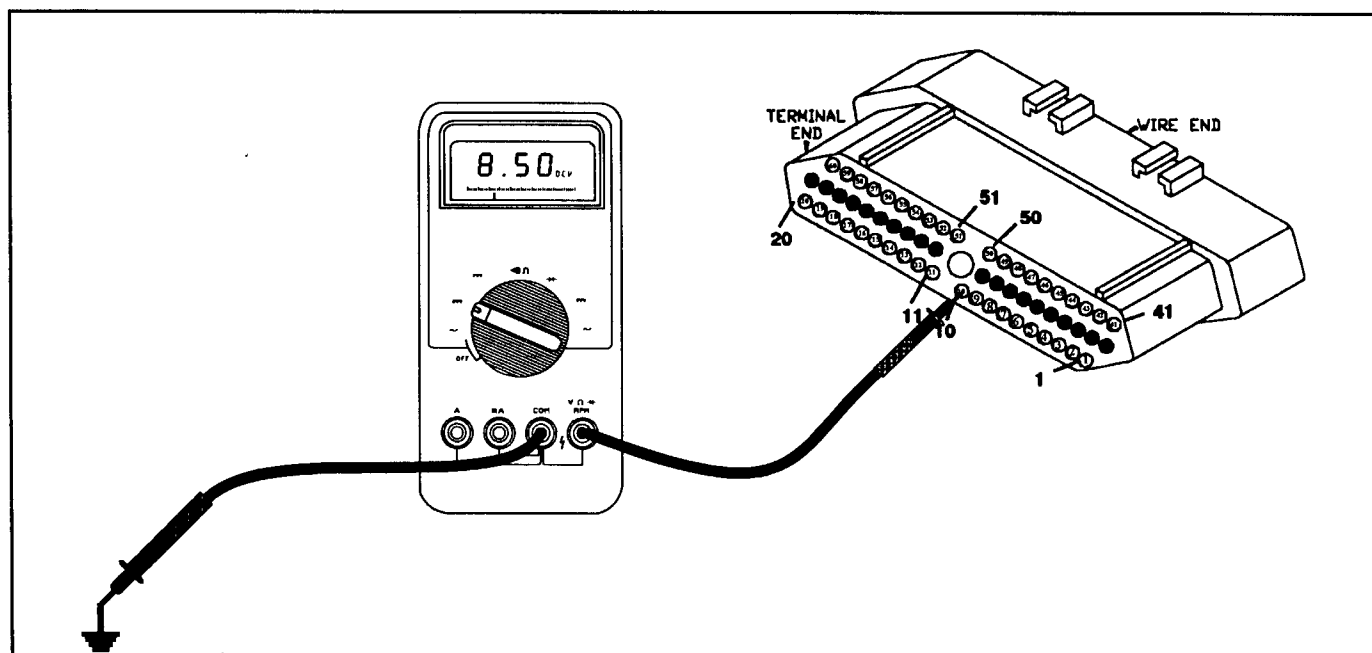

Figure 57
- Unplug the TCM connector with the ignition off. Once disconnected, turn the ignition on and check terminal 10 for 7 to 10 DC volts (See Figure 57). If 7 to 10 volts is observed, replace the TCM. If there is not, go to the next step.